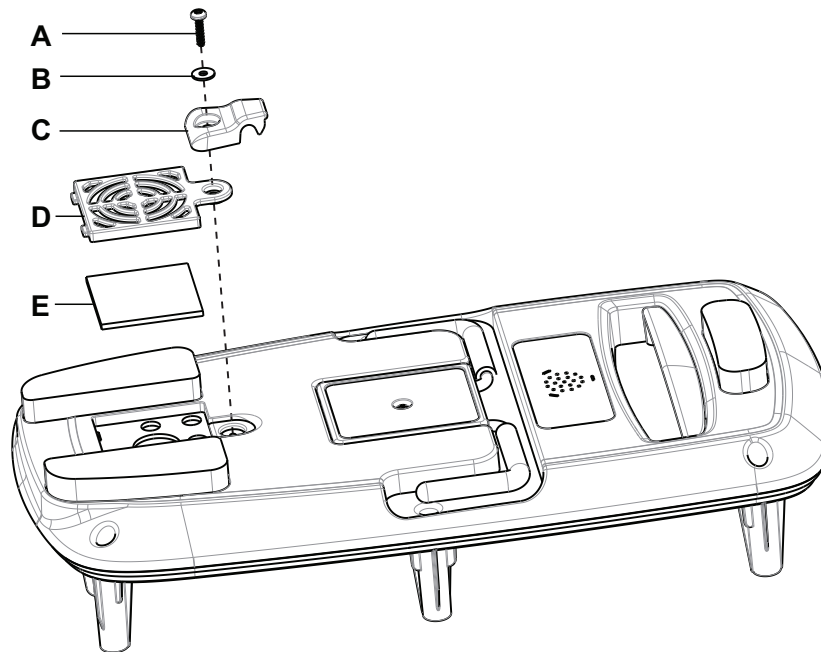

Figure 3 – Air filter
4. Using a T20 Torx driver, remove the screw (A), washer (B), and flex grip (C) that secure the air filter access door (D) to the cover (Figure 3). Save the screw, washer, and flex grip.